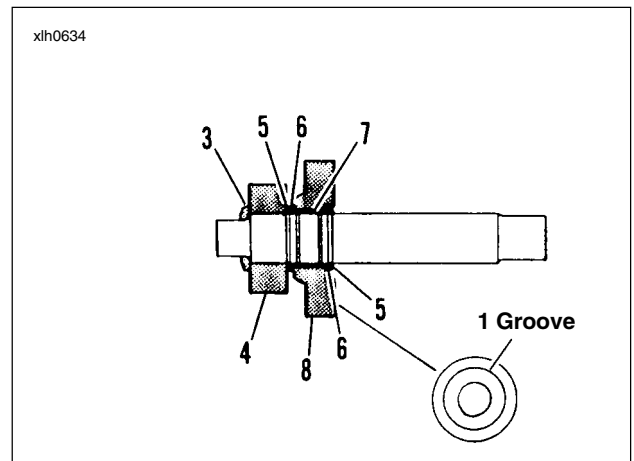

Figure 6-42.
5. See Figure 6-42. Install retaining ring (5) on countershaft. Position retaining ring in the second ring groove from the end with internal threads. Install thrust washer (6) next to retaining ring. Install split bearing (7) in seat next to washer (6).
6. Locate countershaft first gear (8). Gear (8) has a radial groove at one side of the gear. Install gear (8) over split bearing (7) with radial groove facing access door.
7. Install thrust washer (6) and retaining ring (5) next to gear (8).
8. Locate countershaft 4th gear (4). This flat, shoulderless gear is splined and has a single radial groove at one side. Position gear next to retaining ring (5). Place beveled washer (3) over end of shaft with beveled side away from gear (4).